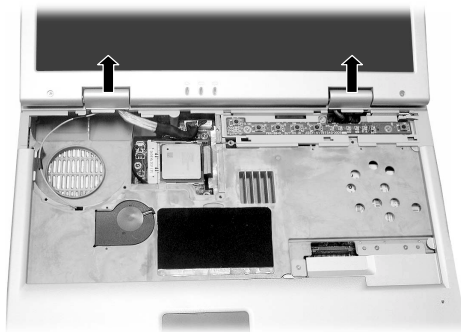

Figure 2-18 Remove the antenna
2. Remove the two hinge covers. (Figure 2-18)